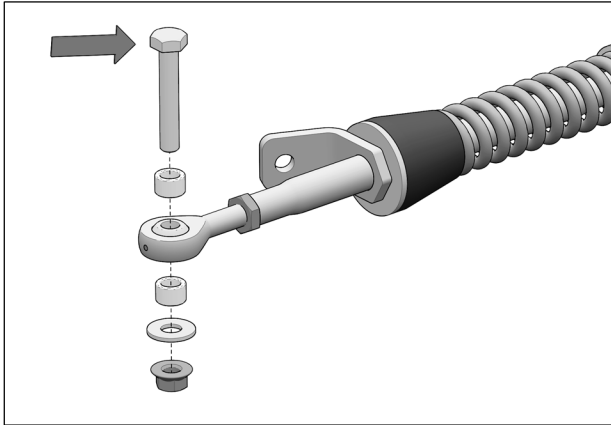

Fig. 13
3. Remove bolts, nuts, washers, and bushings from front stabilizing rod ends. See Fig. 13